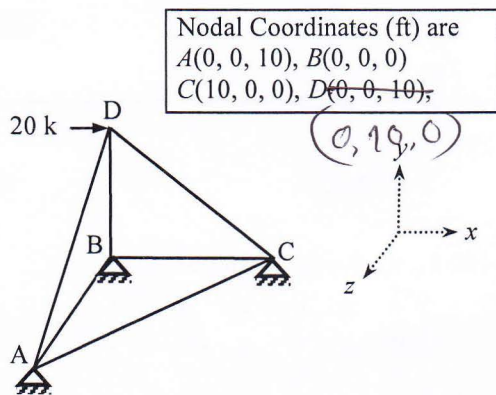

Fig 1
1. Use Stiffness Method to calculate the deflections at joints e and g of the 2D truss loaded as shown in Fig. 1 [Given: $P = 30$ kN, $Q = 29$ kN, $S_x = \text{constant} = 10$ kN/mm].
- Ignore zero-force members and apply boundary conditions to formulate the stiffness matrix of the space truss $ABCD$ shown in **Fig.1** [Given: $S_x = \text{constant} = 500 \text{ k/ft}$].